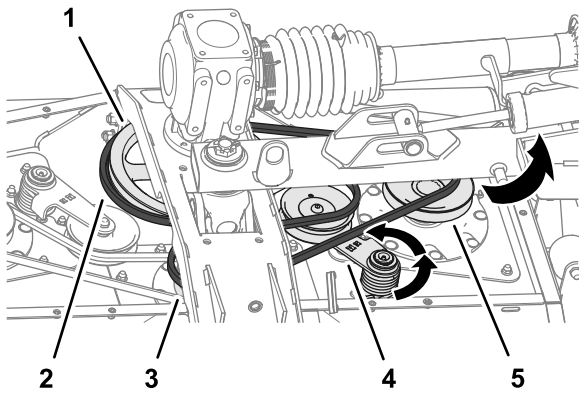

Figure 59
2. Use a breaker bar or similar tool to rotate the belt tensioner for the long belt counterclockwise and slip the belt off the tensioner pulley (Figure 59).
3. Slip the long belt off the drive pulley, center-spindle pulley, and right-spindle pulley (Figure 59).